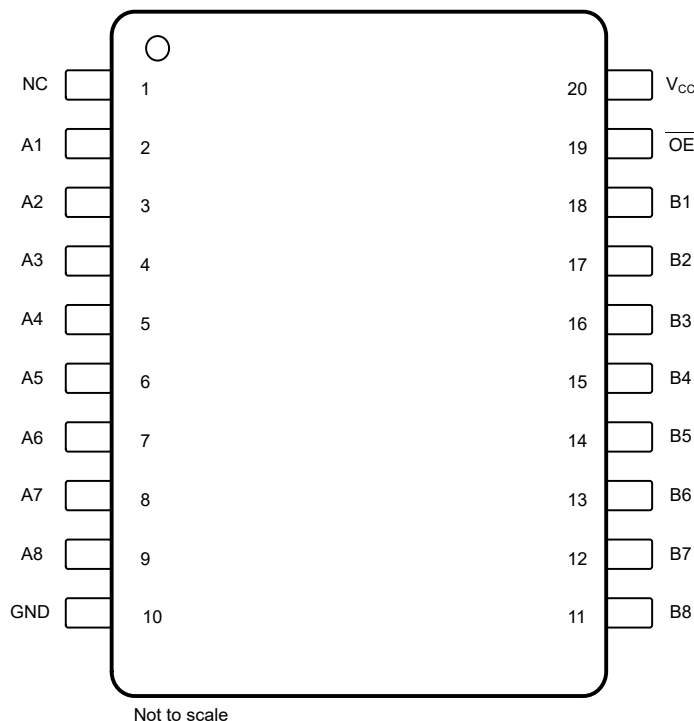
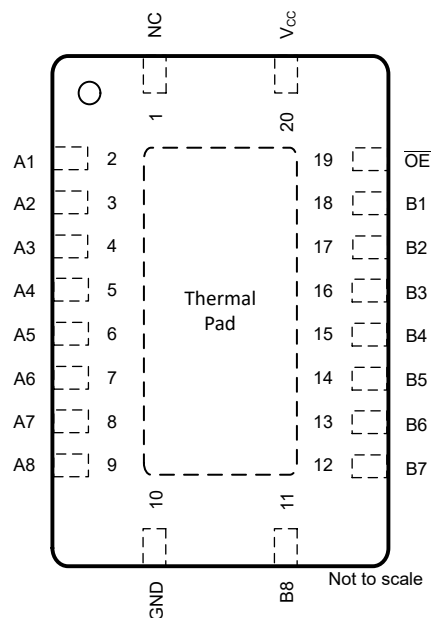

Figure 4-1. Pin Diagram (DGS, and PW Package 20-Pin VSSOP, and TSSOP Packages)
Figure 4-2. Pin Diagram (RKS Package 20-Pin VQFN Package)
4.1 TSSOP (20), VSSOP (20), and VQFN (20) Packages
Figure 4-1 and Figure 4-2 shows the SN74CBTLV3245A-Q1 pin diagram for the TSSOP (20), VSSOP (20), and VQFN (20) packages. For a detailed description of the device pins please refer to the *Pin Configuration and Functions* section in the SN74CBTLV3245A-Q1 datasheet.